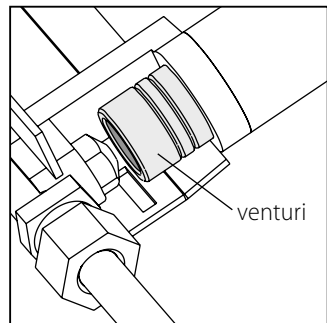

figure 2
- 8 Resetting the Venturi (see fig. 2):